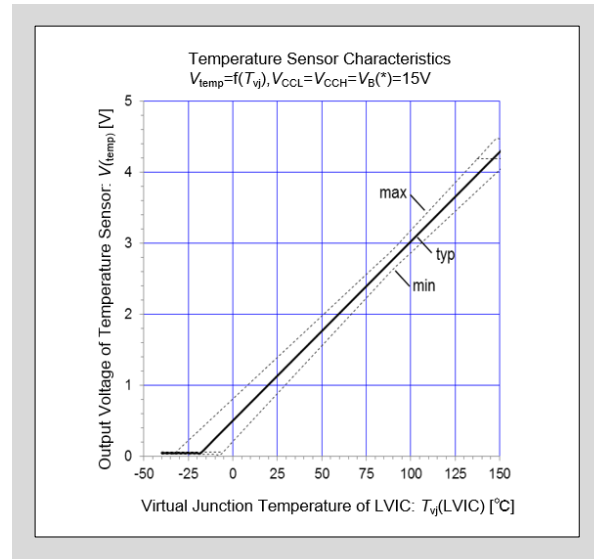

Fig. 3-25 LVIC virtual junction temperature vs. TEMP output voltage characteristic (with 5kΩ pull-down resistor)
- Fig. 3-25 shows the LVIC virtual junction temperature versus TEMP output voltage characteristics with 5k Ω pull-down resistor.